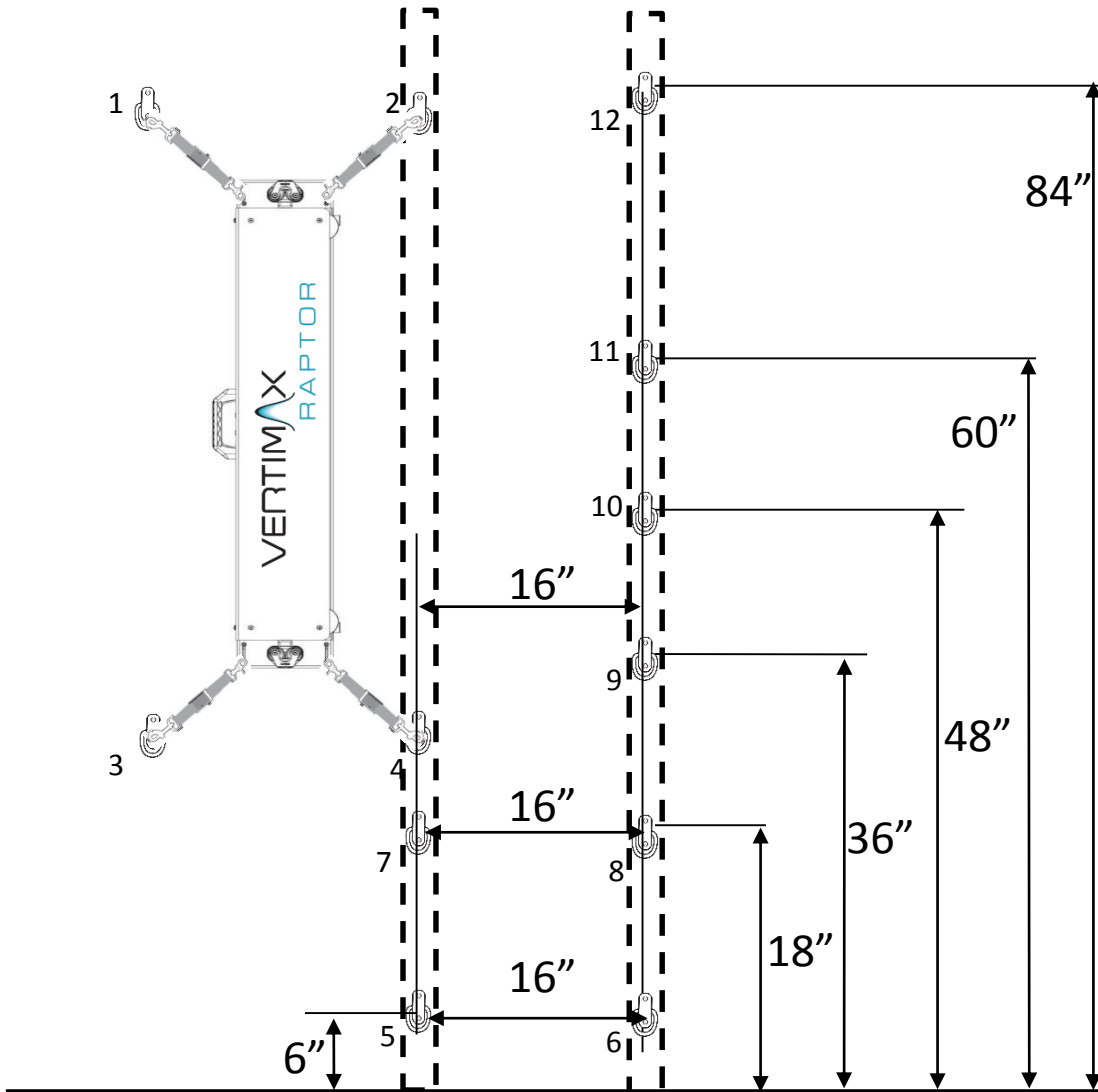
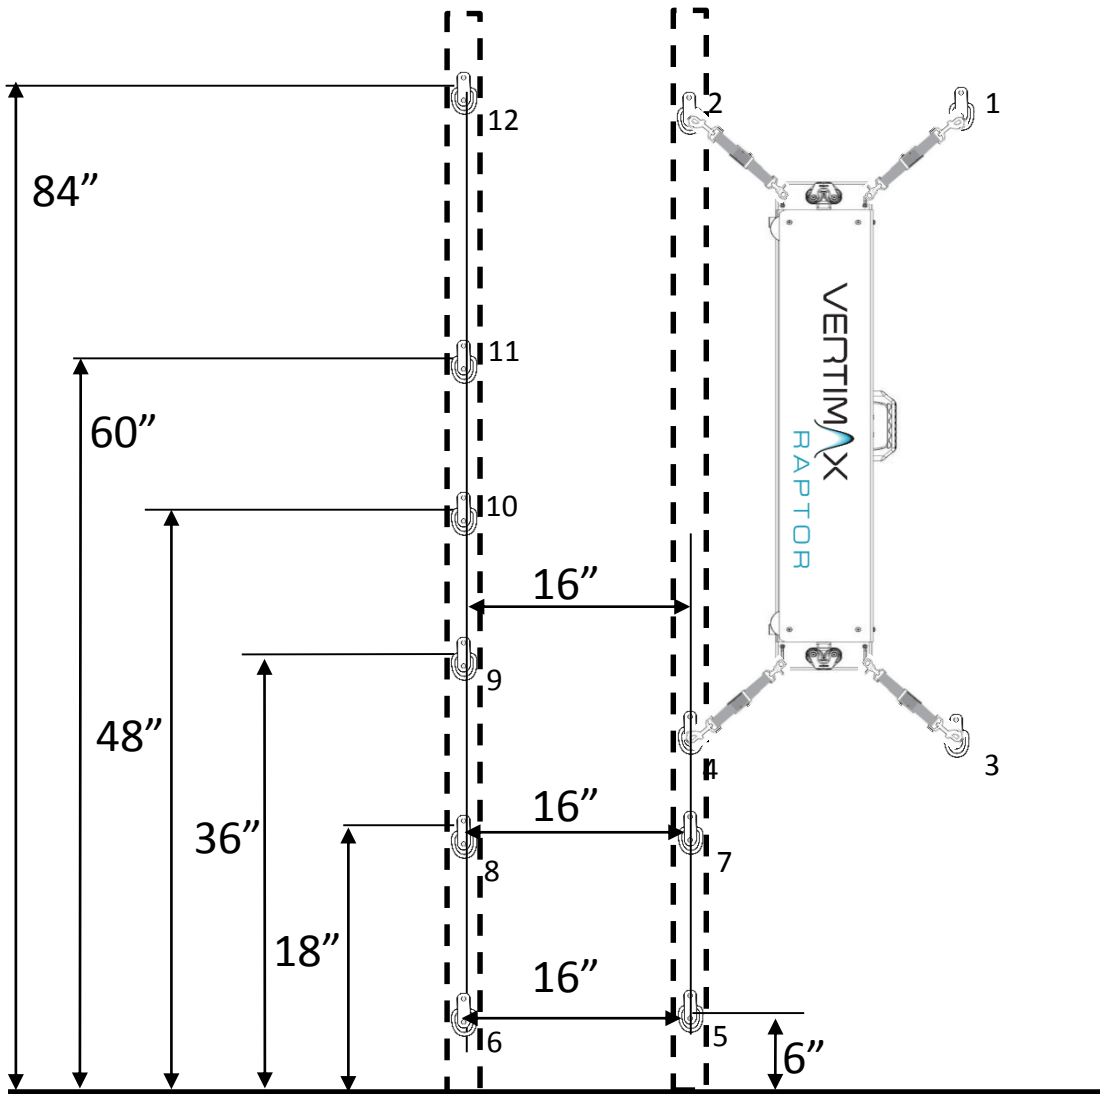

Figure 24
Figure 25
Step 5 – If you want to train off the right side of the Raptor unit, use the Figure 24 template to place the additional eight D-Rings on the wall surface to the right of the unit. If you want to train on the left side of the Raptor unit, rotate the unit 180 degrees and reference Figure 25 for placement of the remaining eight D-Rings to the left of the Raptor unit. Remember when marking the mounting locations of each D-Ring that it is critical that the holes drilled for the lag screw are exactly centered in the middle of the stud. If the holes are drilled off center the stud will likely split or be weakened significantly and the D-Ring will not be secured properly. In such a case the D-Ring could detach from the wall causing serious injury when the Raptor is in use.
Step 5 (Right Side Mount) – Using Figure 24 below, suggested locations for the remaining 8 D-Rings are diagramed for placement on the wall. D-Rings 5 & 6 and 7 & 8 are paired 16 inches apart at 6 inches and 18 inches respectively above the ground while D-Rings 9, 10 and 11 are placed 3, 4 and 5 feet respectively above the ground with D-Ring 12 placed 7 feet above the ground.
Step 5 (Left Side Mount) – Using Figure 25 below, suggested locations for the remaining 8 D-Rings are diagramed for placement on the wall. D-Rings 5 & 6 and 7 & 8 are paired 16 inches apart at 6 inches and 18 inches respectively above the ground while D-Rings 9, 10 and 11 are placed 3, 4 and 5 feet respectively above the ground with D-Ring 12 placed 7 feet above the ground.